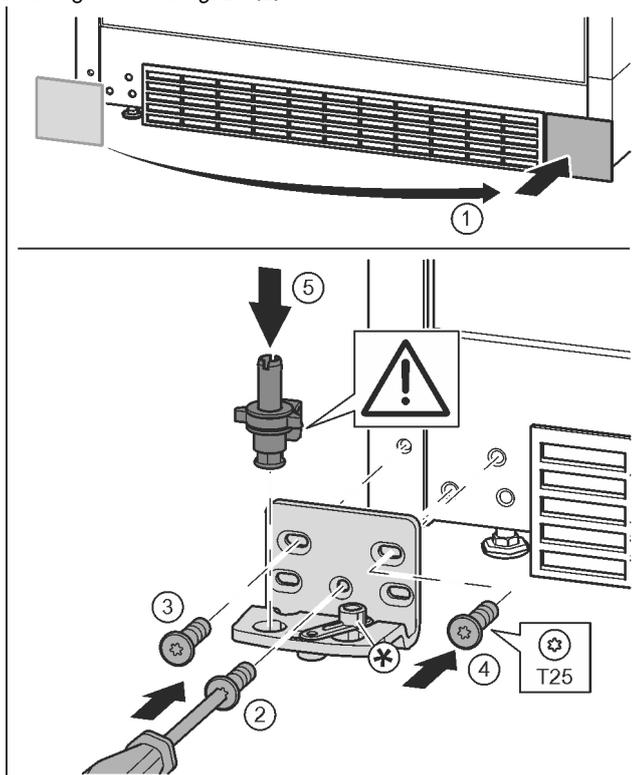

Fig. 17
- ▶ Remove the cover and fix it on the other side. Fig. 17 (1)
- ▶ Place the bearing bracket on the other side and screw in with the aid of a T25 screwdriver. Start with screw 2 at the bottom in the middle. Fig. 17 (2)
- ▶ Screw in screws 3 and 4. Fig. 17 (3, 4)
- ▶ Insert the bearing pin completely. Make sure that the catch mechanism is pointing to the rear. Fig. 17 (5)